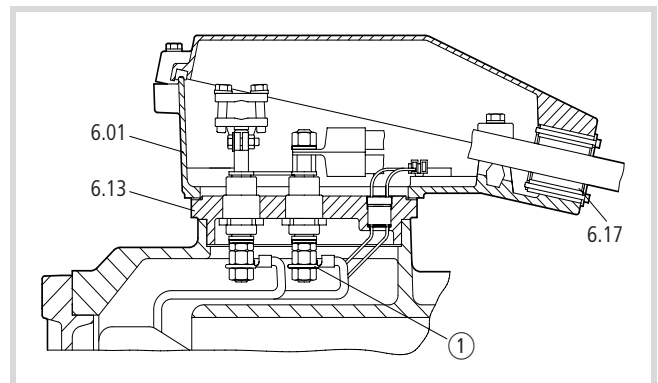

Figure 16: Terminal box with bolt-type gland
- ▶ Undo the retaining plate ① and nut (→ Fig. 16).